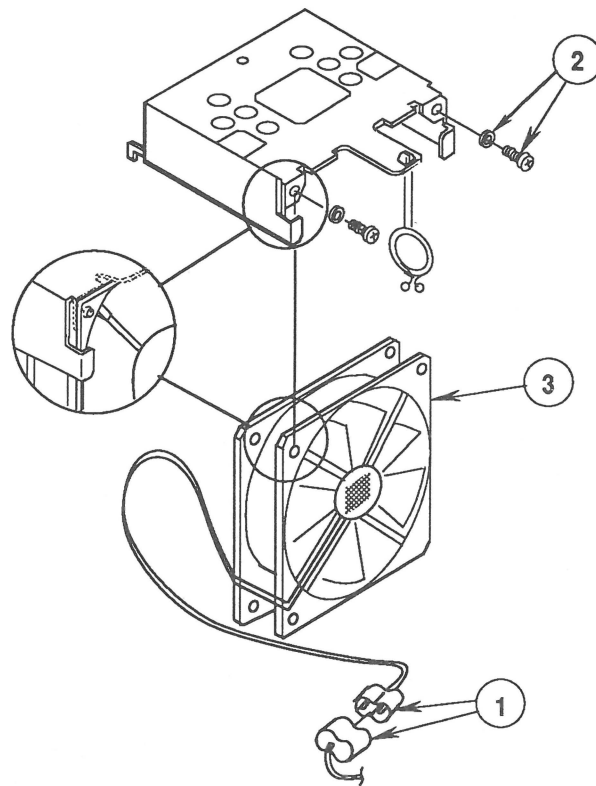

FIGURE 16
7. Disconnect the fan wires at the fan connectors (Figure 16, #1), and remove the fan and mounting bracket.
8. Remove the two screws and lockwashers (Figure 16, #2), and remove the fan (Figure 16, #3) from the mounting bracket.
1. Replace the fan (Figure 16, #3) on the mounting bracket (see detail), and install the two lockwashers and screws (Figure 16, #2).